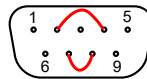
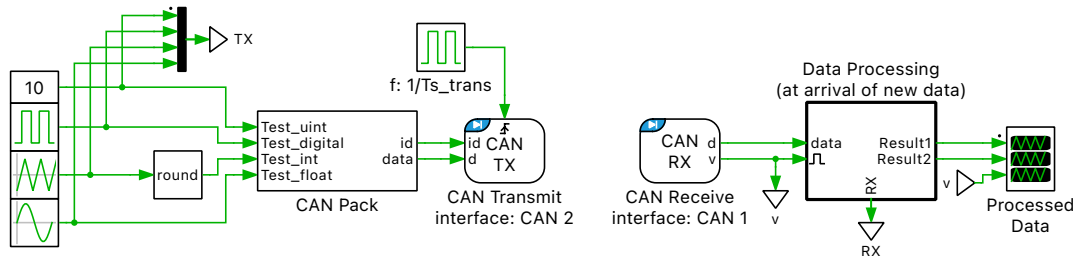

Fig. 1: Loop-back wiring of CAN channel 1 and 2 on the rear panel of the RT Box
Fig. 2: Subsystem circuit schematic for CAN loop-back demo
- Wires to connect the CAN_H pin of channel 1 and 2, and CAN_L pin of channel 1 and 2 together. See Fig. 1 for an illustration.
This demo model shows the CAN transmitting and receiving functions on two different channels inside the same subsystem. With the wiring setup shown in Fig. 1, a loop-back of the CAN message between two channels is formed. The circuit schematic is shown in Fig. 2. The CAN Pack block generates a CAN message with PLECS signals as its inputs. Next, it interfaces with the CAN Transmit block to send out the CAN message. On the receiver side, after the CAN Receive block a CAN Unpack block is used to unpack the CAN message into PLECS signals that are displayed in a scope.